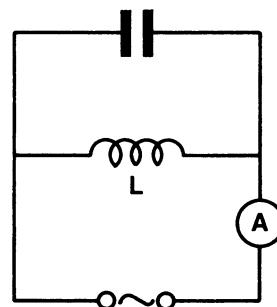

FIG. 3.50
C. There is in Fig. 3.50 no induced voltage across the inductor.
E. The inductor in Fig. 3.50 carries no current.